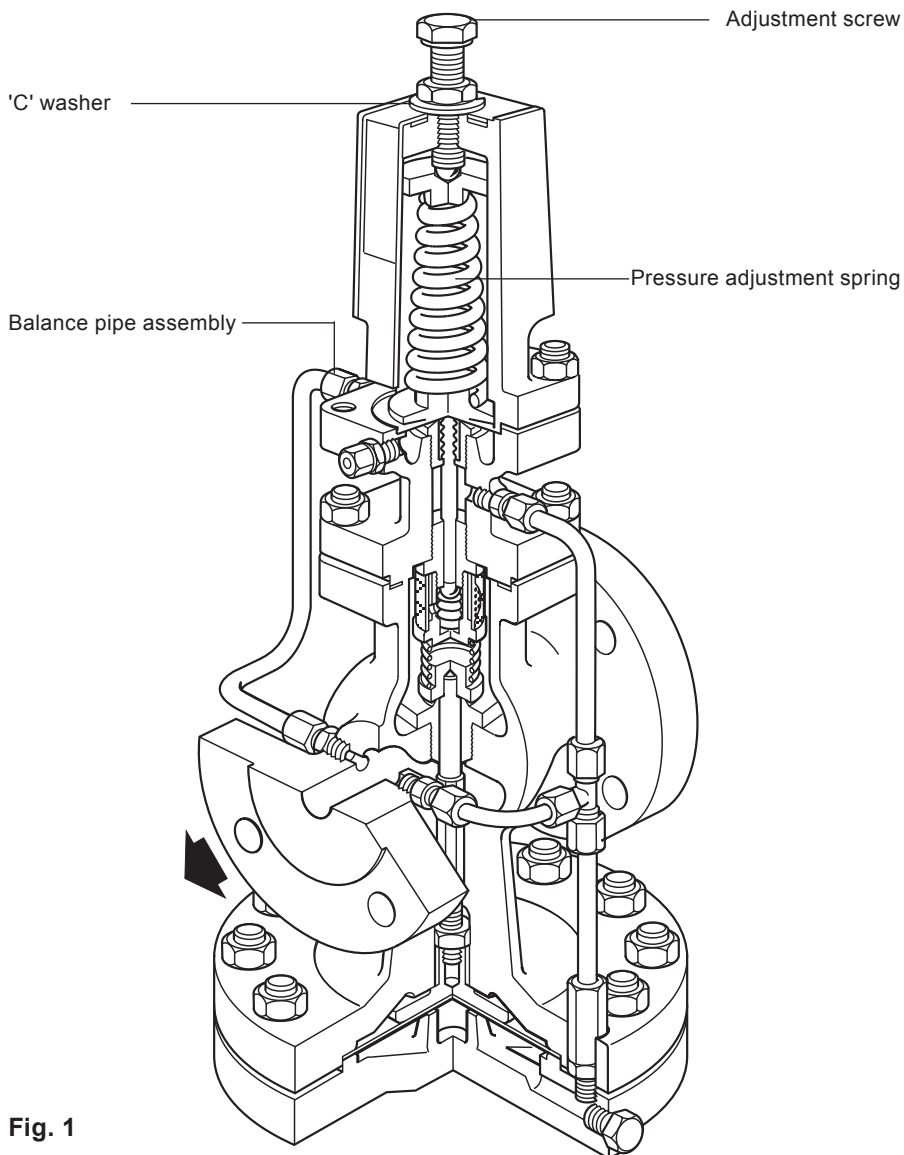

Fig. 1
3.1 Supply (Figure 1)
7. Holding the adjustment screw in position with the spanner tighten down the lock-nut to secure the setting of the adjustment spring, making sure that the 'C' washer stays in position (Figure 1).